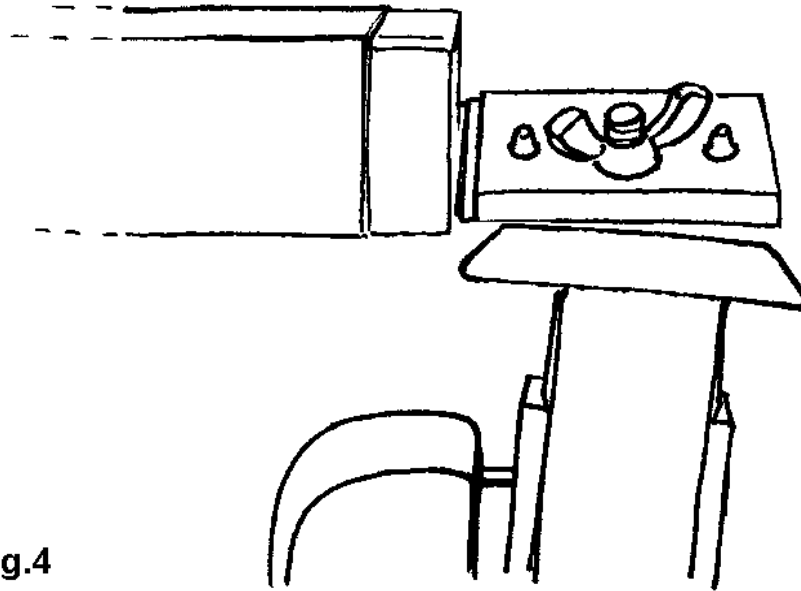

fig.4
- 1 A bevelled edge can be cut if required, by setting the anvil at an angle to the blade and taking care to pull leather through straight. See *fig.4*